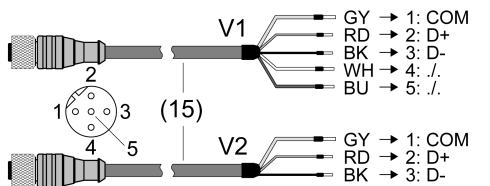

Figure 5: Connecting cable V1 and V2
- Due to a technical revision two different types of connecting cables might be included in delivery under art.-no. il LTGDHAL... (Figure 5).